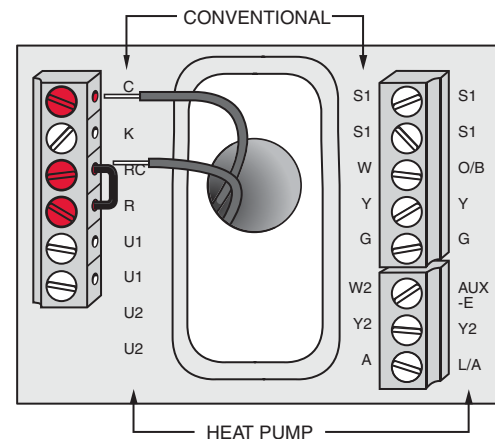

Fig. 20. Inserting wires in thermostat terminal block.
1. Power the thermostat using Rc and C terminals or with batteries. Refer to Fig. 20.